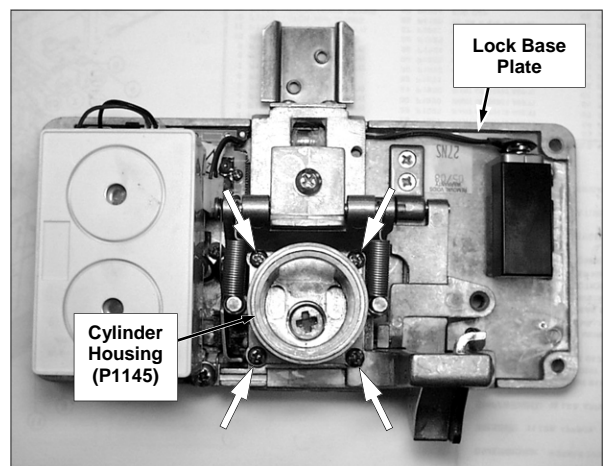

Fig. 3: The **Lock Base Plate** assembly. The lock cylinder is not supplied as shown in this image. Remove 4 screws securing the **Cylinder Housing** (4 arrows).
Remove the **Lock Cover**. Remove the four (4) screws securing the **Cylinder Housing** (P1145) to the **Lock Base Plate** assembly as shown in Fig. 3.
If the key cannot be withdrawn, the lock cylinder and the Cam are mis-aligned. Remove the four (4) screws securing the **Cylinder Housing** to the **Lock Base Plate** assembly as shown in Fig. 3, turn the Cam a quarter turn clockwise, then re-secure the **Cylinder Housing**. Re-test the deadbolt.